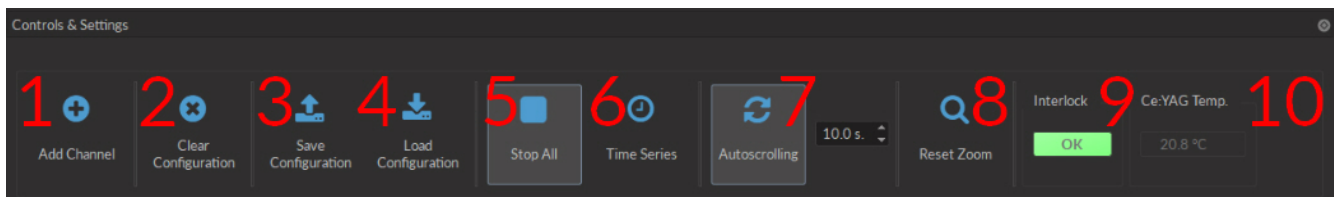

Figure 4.12: Control & Settings
1. The **Add channel** button (Fig. 4.12) opens the **Channel Configuration** window 4.2. See section 4.1.1 for more details.
2. The **Clear Configuration** button (Fig. 4.12) clears all configuration channels. Cleared channels cannot be recovered unless previously saved.
5. The **Start All** button (Fig. 4.12) starts all currently configured channels.